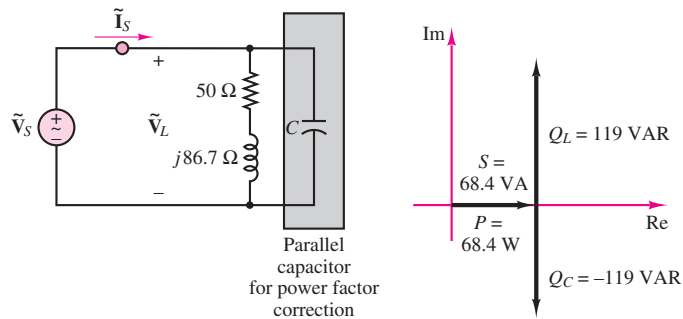
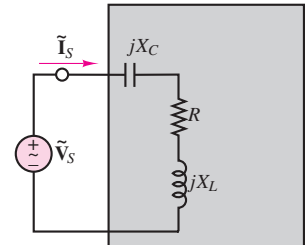

Figure 7.20 Power factor correction
Figure 7.21
**Comments:** The power factor correction is illustrated in Figure 7.20. You can see that it is possible to eliminate the reactive part of the impedance, thus significantly increasing the percentage of real power transferred from the source to the load. Power factor correction is a very common procedure in electric power systems.
The circuit of Figure 7.21 proposes the use of a series capacitor to perform power factor correction. Show why this is *not* a feasible alternative to the parallel capacitor approach demonstrated in Example 7.8.
**Analysis:** To determine the feasibility of the approach, we compute the load current and voltage, to observe any differences between the circuit of Figure 7.21 and that of Figure 7.20. First, we compute the load impedance: